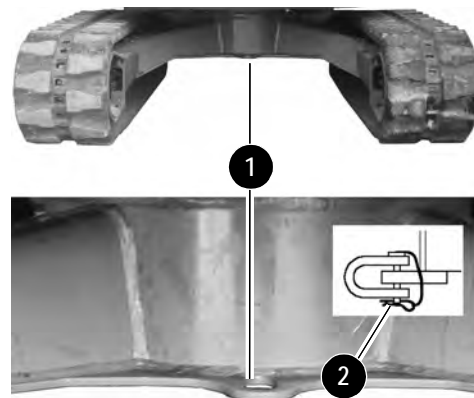

Figure 3-54 Towing
The machine can be towed by using the towing bracket (1). Secure a towing shackle, shackle pin and lock (2) of adequate size to the towing bracket (1) as shown in Figure 3-54. Tow the machine slowly and only short distances.